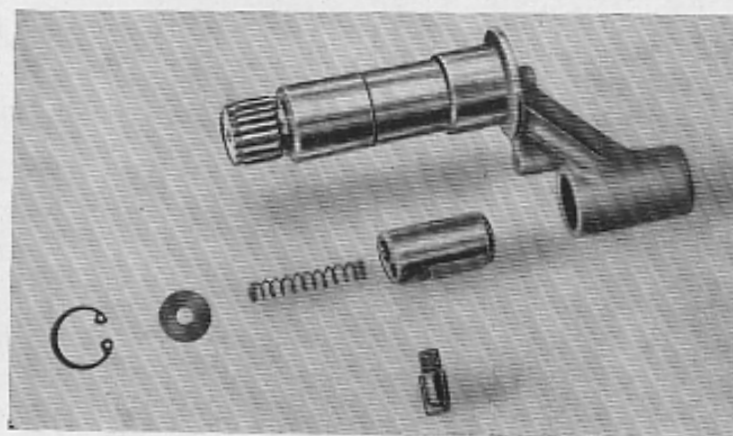

Fig. 4
- 8 To remove kick start shaft action pin. Place shaft in vice, unscrew reference pin then the circlip, the disc, the spring and the action pin itself. See Fig. 4.